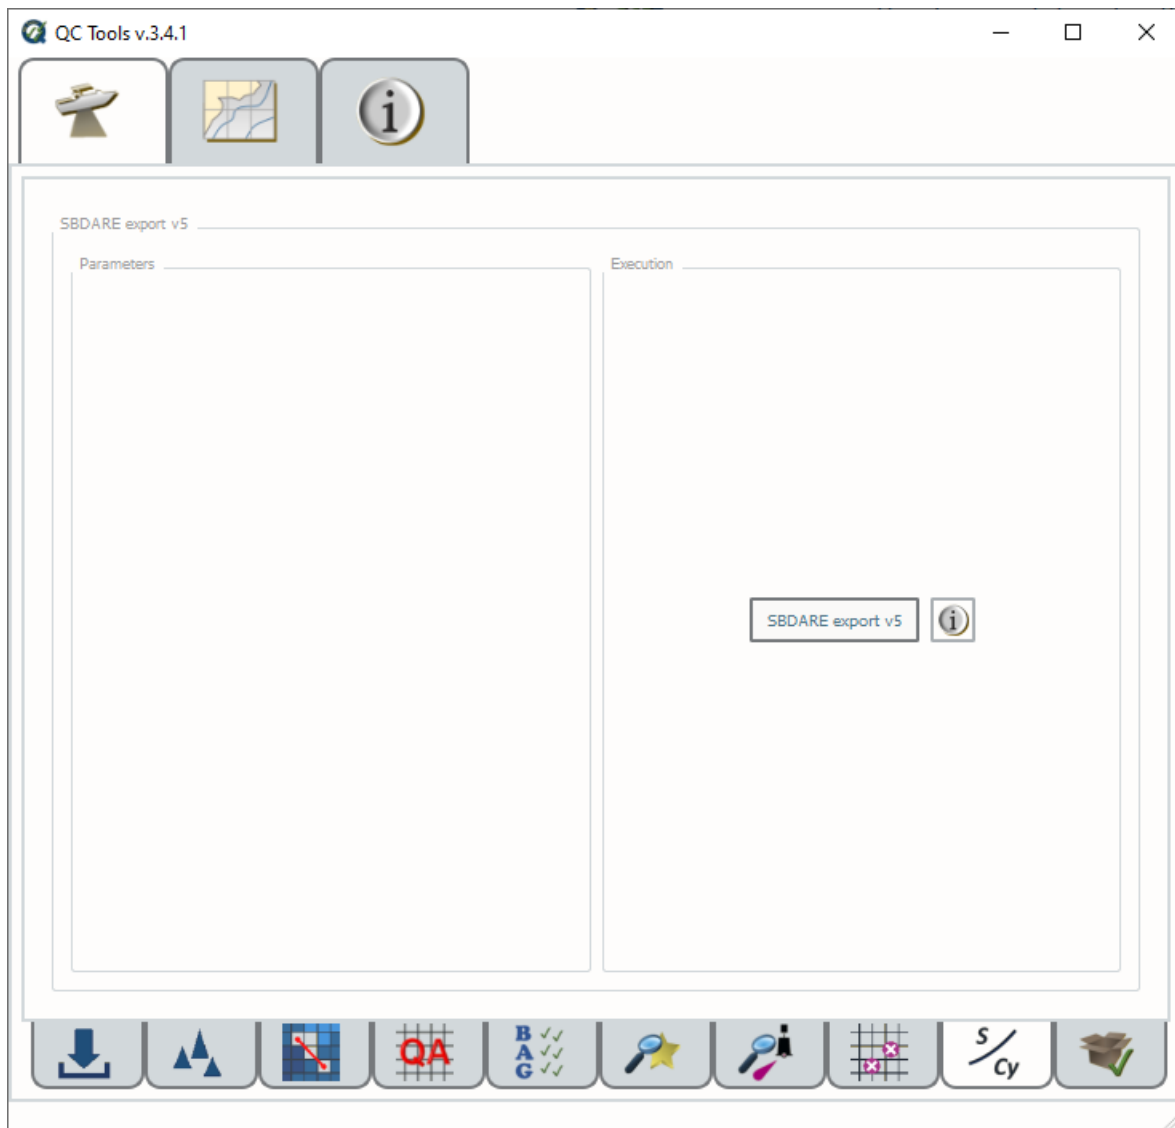

Fig. 2.53: SBDARE exports interface.
- Click **SBDARE export v5** (Fig. 2.53).